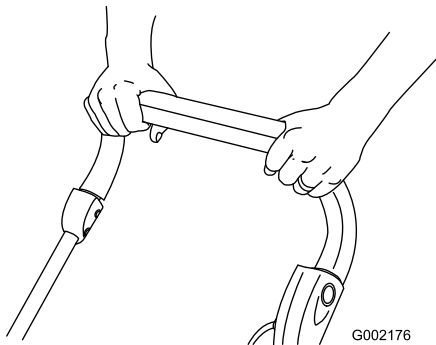

Figure 17
- Hold the control bar to the handle and release the button (Figure 17).